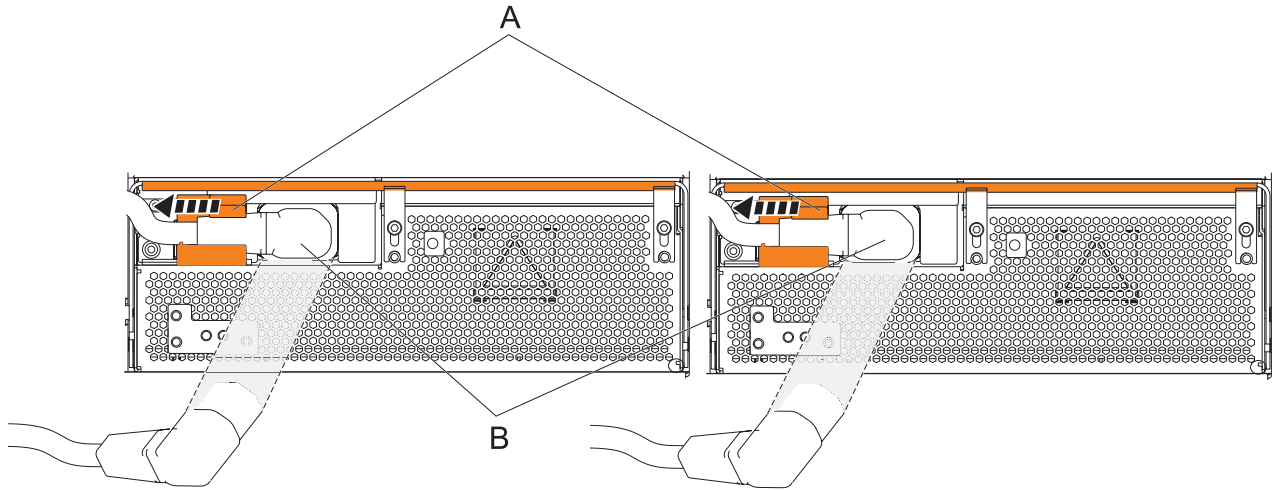

Figure 76. Disconnecting the OCA power cords
- a. Slide the power cord holders **(A)** to the left, located on the front of both the OCAs. See Figure 76 on page 95.